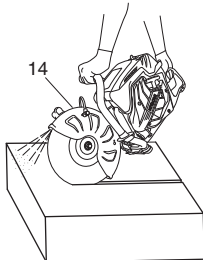

Fig. 15
Make sure to adjust the wheel guard (14) to shield you from any flying debris. (Fig. 15)